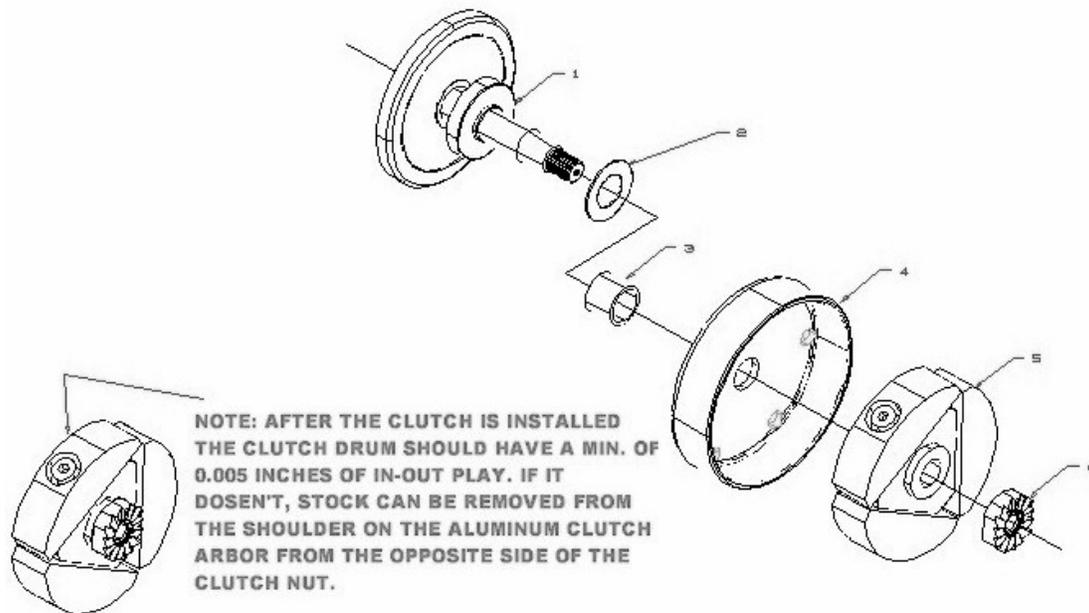

Figure 33, Clutch Assembly Drawing
7. Apply high strength (red) thread locking agent to the threads and install the nut and torque to 40 ft-lb (54Nm) with the special socket (see figure 33).